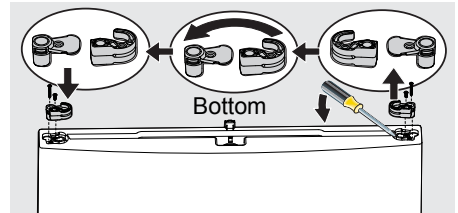

Figure 3
- Flip the door over to access the bottom. Remove the screw from the hinge bearing and the door closer (see Figure 3).
- Using a flat head screwdriver, gently pry the closer/bearing assembly out of the door (see Figure 3).
- Separate the door closer and hinge bearing (see Figure 3).
- Flip the door closer over 180° and reinstall the closer onto the bearing (see Figure 3).
- Reinstall the closer/bearing assembly to the opposite side of the door and reinstall the screws (see Figure 3).